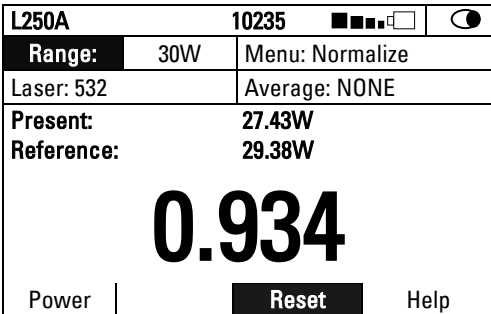

Figure 4.3
2. When ready to normalize, press "apply". From then on, the power will be proportional to the normalized power value (See Figure 4.3).